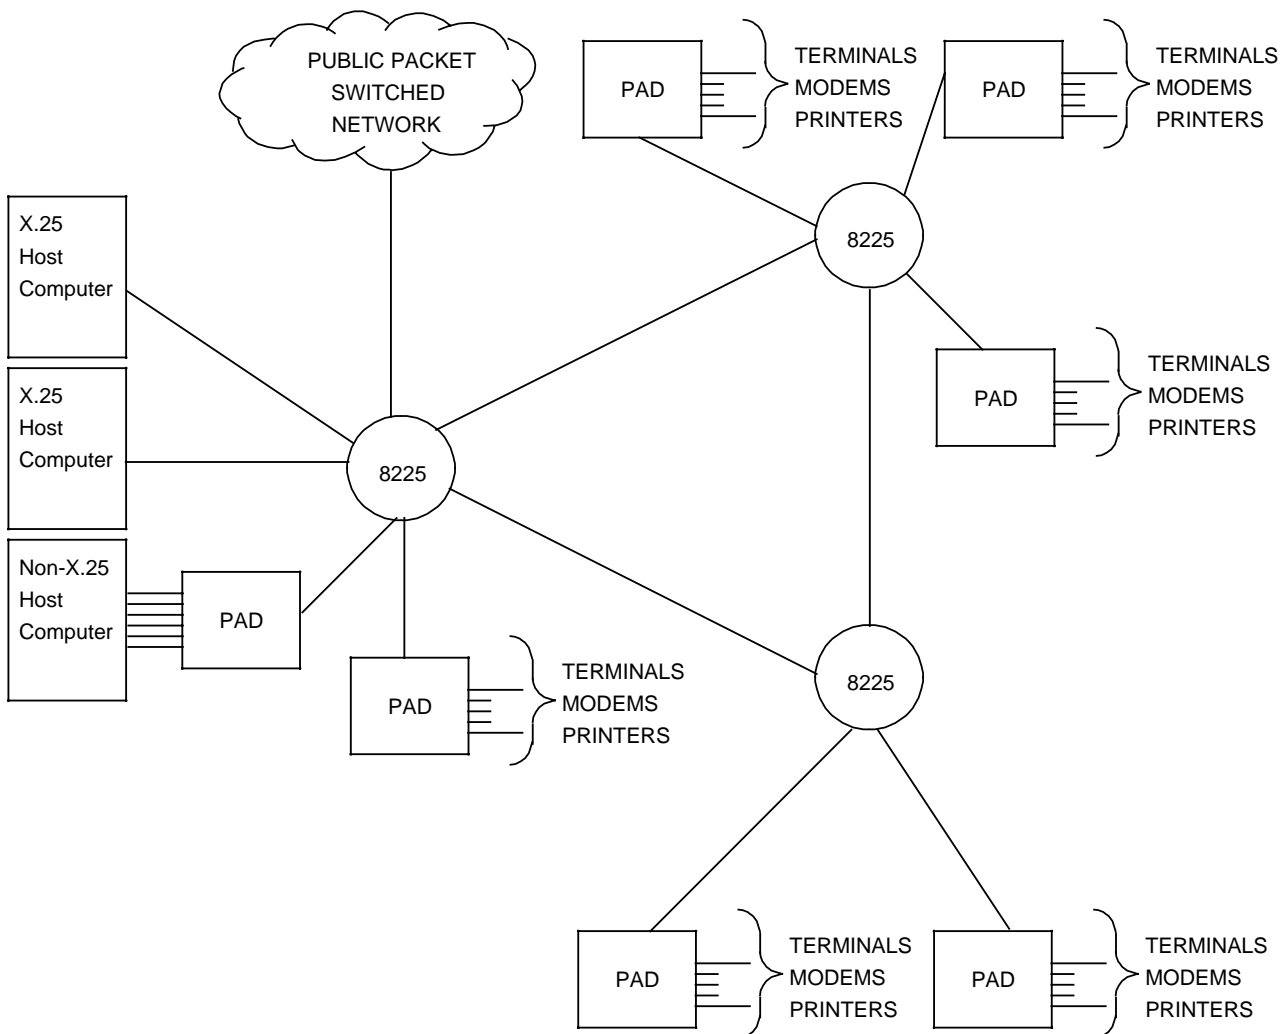

Figure 1-1 Example X.25 Network with Secondary Routing
- To build entire X.25 networks (see Figure 1-1).